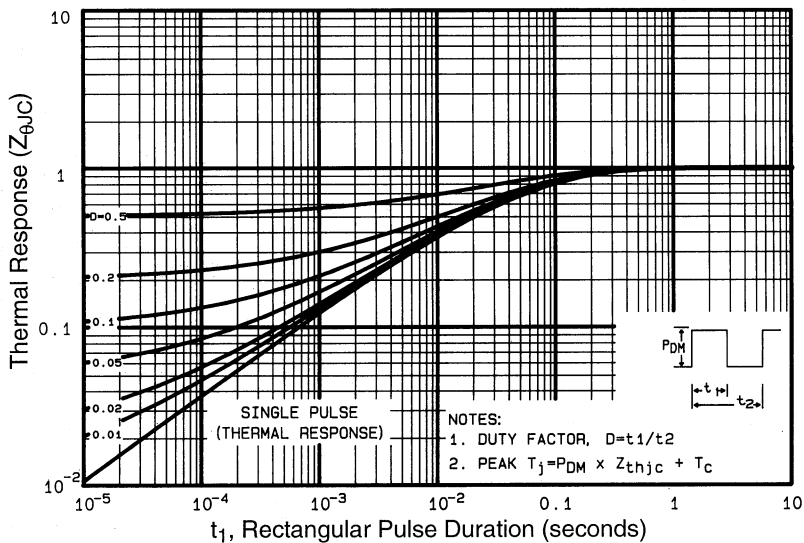

Fig 11. Maximum Effective Transient Thermal Impedance, Junction-to-Case
- ① Repetitive rating; pulse width limited by max. junction temperature. (See fig. 11)
- ② $V_{DD} = 25V$, starting $T_J = 25^\circ\text{C}$, $L = 44\mu H$